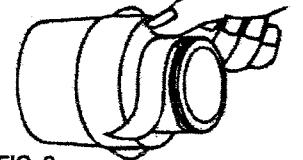

FIG. 2
3. Then with the thumb, press the paper firmly against the threads around the entire circumference to leave an impression of the threads. (Use the end of a pencil if necessary to bring out the edge of the thread onto the paper.) (Fig. 2)